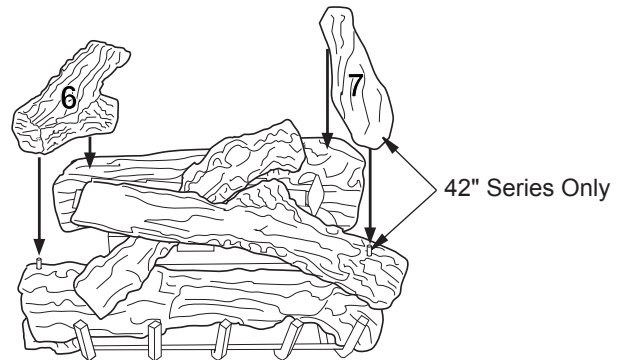

Figure 49 - Installing Log No. 6 (36" and 42" Series) and Log No. 7 (42" Series Only)
6. Place log #6 (left log) onto left pin of front log (#2) and the smooth surface of rear log (#3) as shown in Figure 49. Make sure it is seated properly.
7. For 42" series only, place log #7 onto right pin of top log (#5) as shown in Figure 49. Make sure it is seated properly.